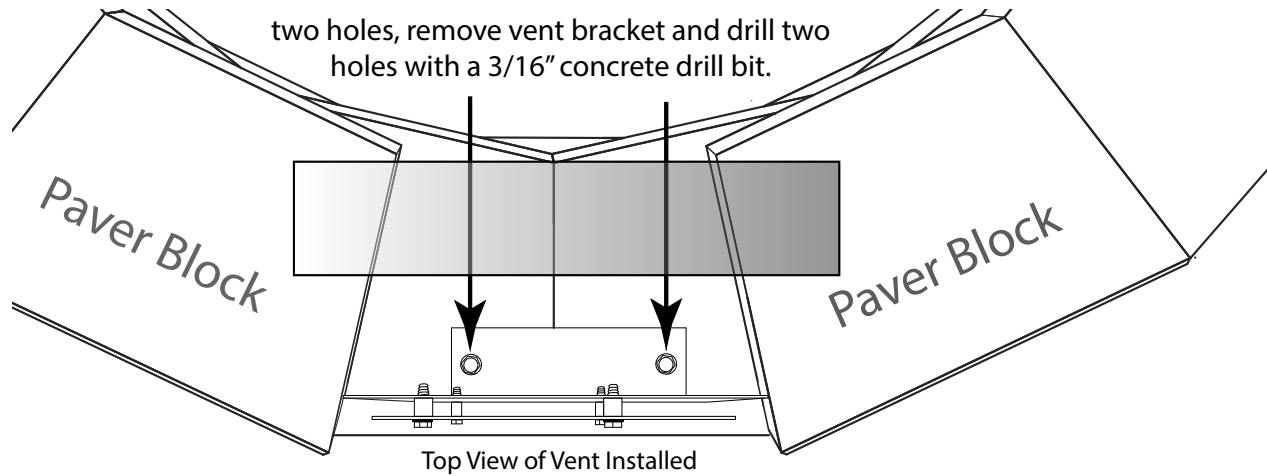

Fig. 4 Top view of vent installed with lintel (shaded area) supporting the back side.
Place the lintel across back side of the paver block to support your next row of blocks. See the shaded area in Fig. 4 showing the placement of the lintel. Securing the lintel with some type of adhesive is optional.
STEP 3: After you have determined the location and measured the width, install the vent kit bracket and mark the inside area as shown in Fig. 4.